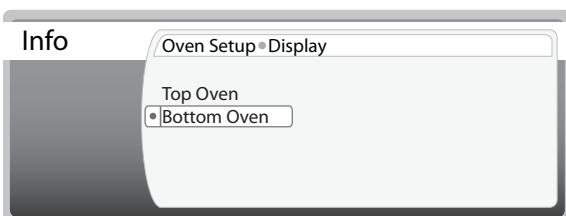

Figure 4.4: Select Top or Bottom Oven
5. For Double Wall Oven models only, select “Top Oven” or “Bottom Oven” (Figure 4.4).
5. For Double Wall Oven models only, select Top Oven (Figure 4.4).